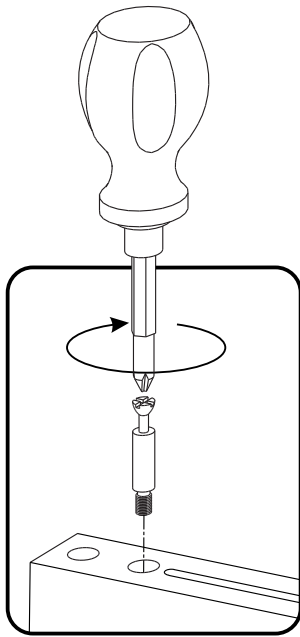

Figure 1
Insert Cam Lock Screws into pre-drilled holes in Side Panels (D), (E), (F) and (G), then tighten. (See Figure 1)